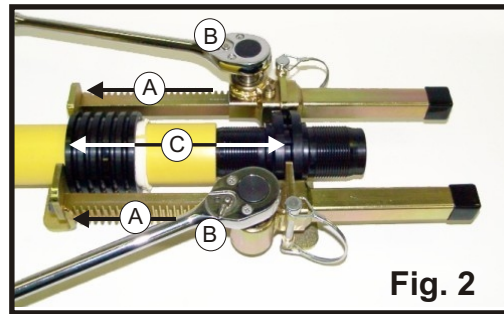

Fig. 2
- B) With ratchets installed, position the tool and ratchets as shown in Fig. 2